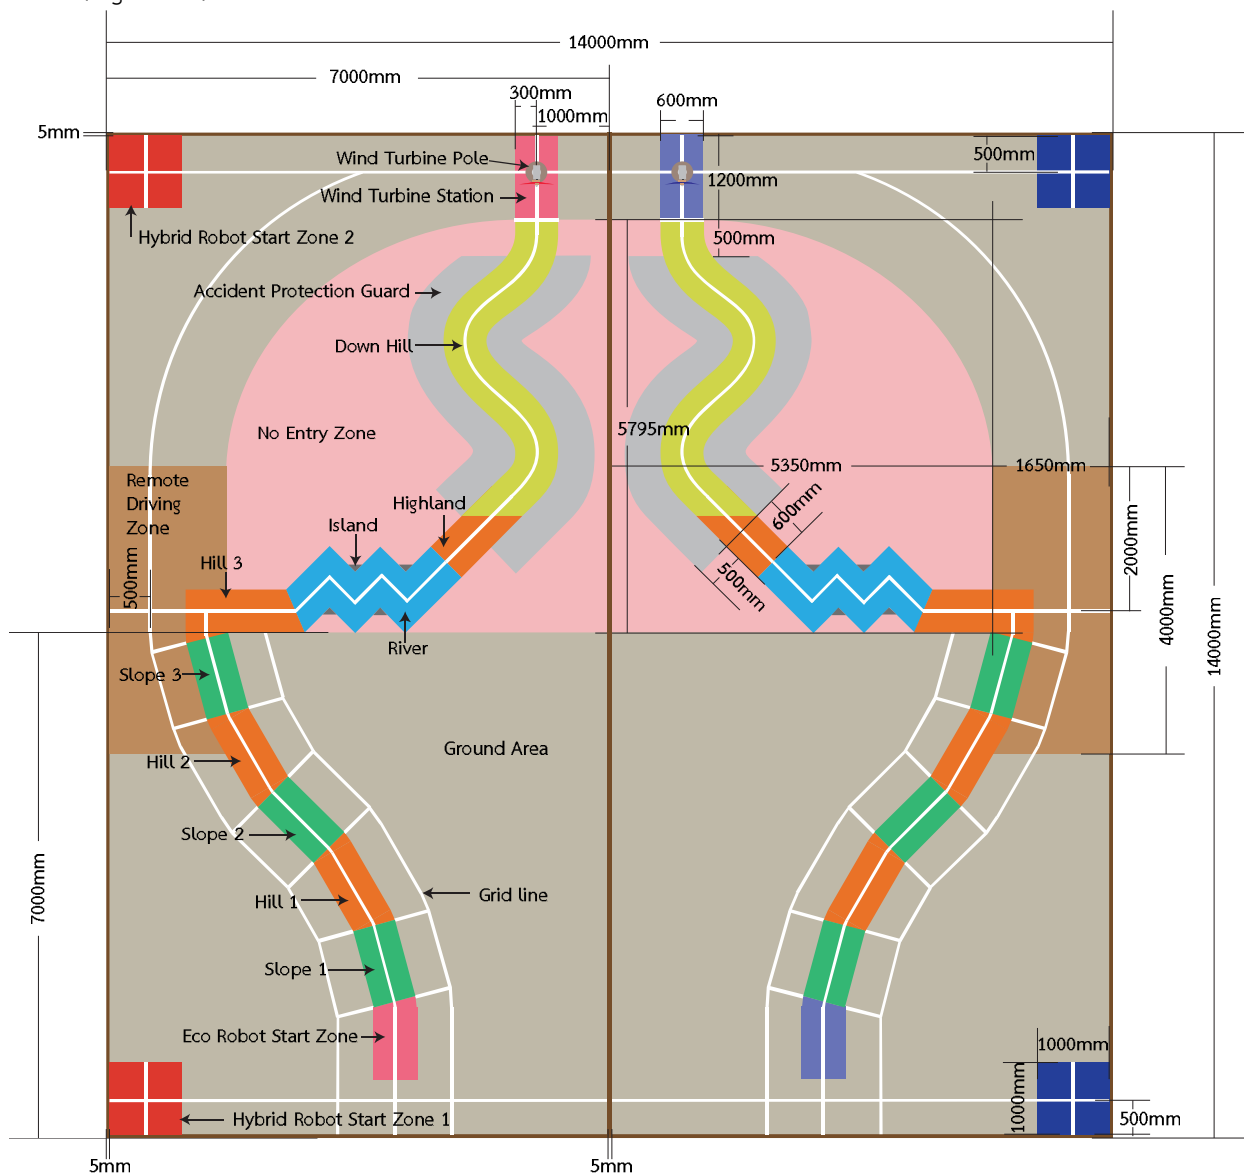

Figure 1: Game Field
10.1 The field consists of a Game Area having the dimension of 14,000 mm x 14,000 mm and surrounded by a wooden fence with the height of 100 mm and the thickness of 5 mm. The game field is divided equally for two teams by a wooden fence with the height of 100 mm and the thickness of 5 mm. The competing teams are Red and Blue teams. (Figures 1)